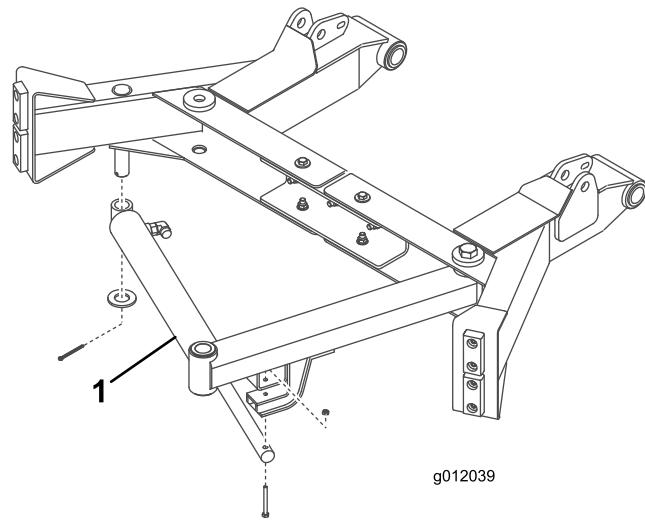

Figure 12
1. Secure cylinder to post on underside of right lift arm with a 1.063 x 2.000 flat washer and cotter pin (Figure 12).
2. Secure shaft end of cylinder to mounting gusset on under side of left broom arm with a M6-1 x 60 capscrew and M6 locknut (Figure 12). Torque the locknut to 87–105 in-lb.